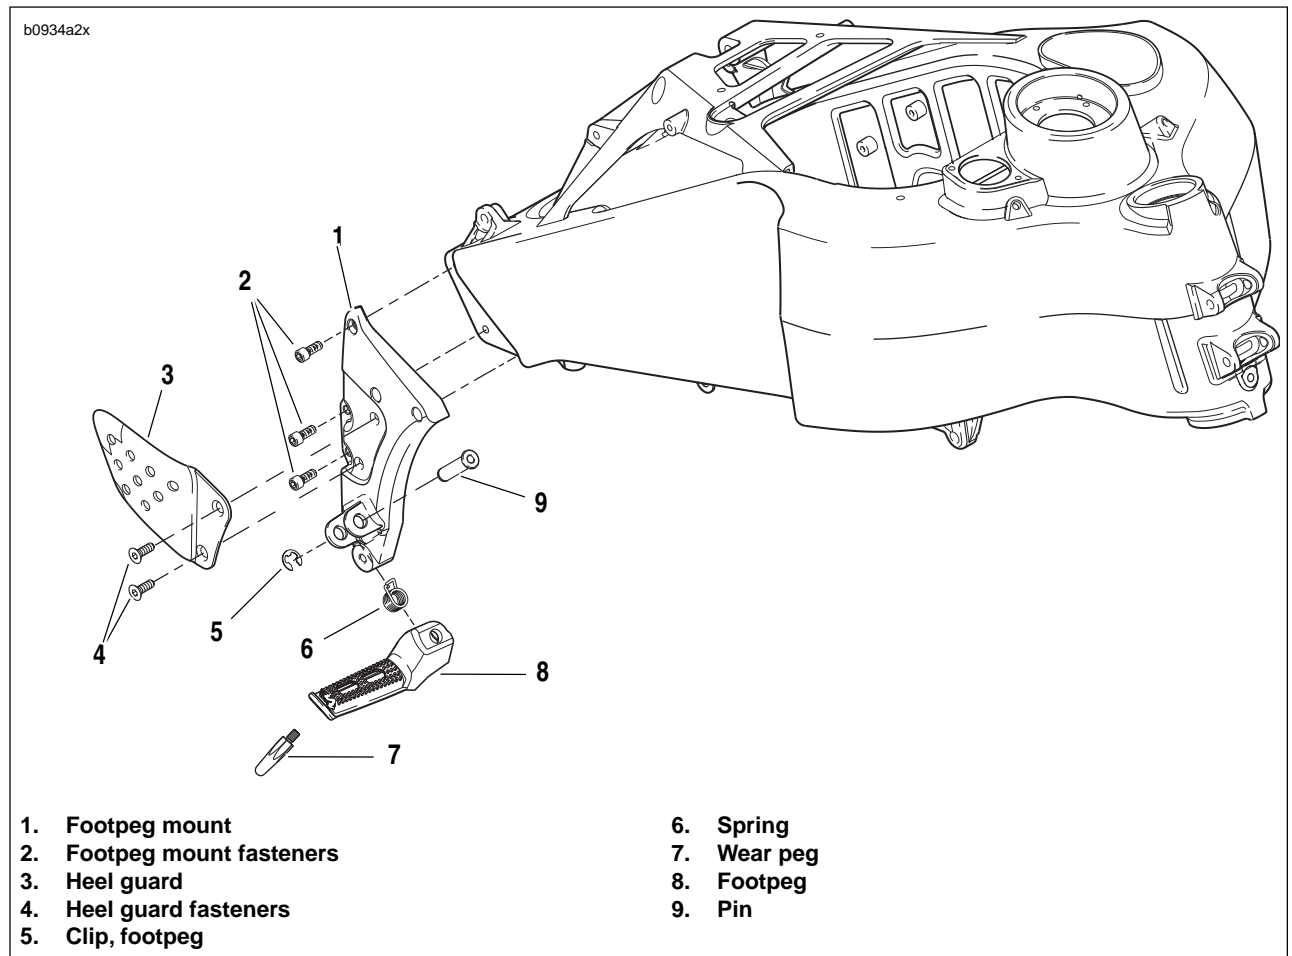

Figure 2-101. Rider Footpeg, Mount and Heel Guard Assembly
1. See Figure 2-101. Remove wear peg from end of footpeg assembly.
1. See Figure 2-101. Remove clip (5).
2. Remove footpeg pin (9).
3. Remove footpeg (8).
1. See Figure 2-101. Remove heel guard fasteners (4).
2. Remove heel guard (3).
1. See Figure 2-101. Remove footpeg mount fasteners (2).
2. Remove footpeg mount (1).
1. See Figure 2-101. Position footpeg mount (1).
2. Install footpeg mount with fasteners (2). Tighten to 108-132 **in-lbs** (12-15 Nm).
1. See Figure 2-101. Position heel guard (3) onto footpeg mount (1).
2. Install heel guard (3) with fasteners (4). Tighten to 72-96 **in-lbs** (8-11 Nm).
1. See Figure 2-101. Install clip (5).
2. Position footpeg (8) on to footpeg mount (1).
3. Install footpeg pin (9).
1. See Figure 2-101. Apply Loctite 272 (Red) and tighten to 36-48 **in-lbs** (4.1-5.4 Nm).